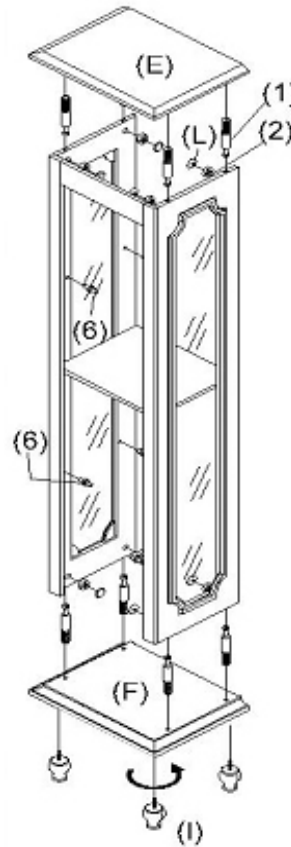

FIGURE 2
4. TIGHTEN WOOD FEET (I) INTO THREADED HOLES ON UNDERSIDE OF BOTTOM PANEL (F). INSERT CAM-BOLTS (1) INTO PREDRILLED HOLES ON UPPER SIDE OF BOTTOM PANEL (F) AND FIT INTO CORRESPONDING HOLES ON BOTTOM EDGES OF LEFT AND RIGHT SIDE PANELS (A, B). INSERT CAM-LOCKS (2) INTO BIG HOLES ON INSIDE OF LEFT AND RIGHT SIDE PANELS (A, B) WITH SLOT FOR SCREWDRIVER FACING OUTWARD. ROTATE CAM-LOCKS (2) CLOCKWISE TO SECURE CAM-BOLTS (1). PUSH COVERS (3) INTO CAM-LOCKS (2). ASSEMBLE TOP PANEL (E) IN THE SAME MANNER. FIT SHELF SUPPORTS (6) INTO PREDRILLED HOLES ON INSIDE OF LEFT AND RIGHT SIDE PANELS (A, B). (AS SHOWN IN FIGURE 2)